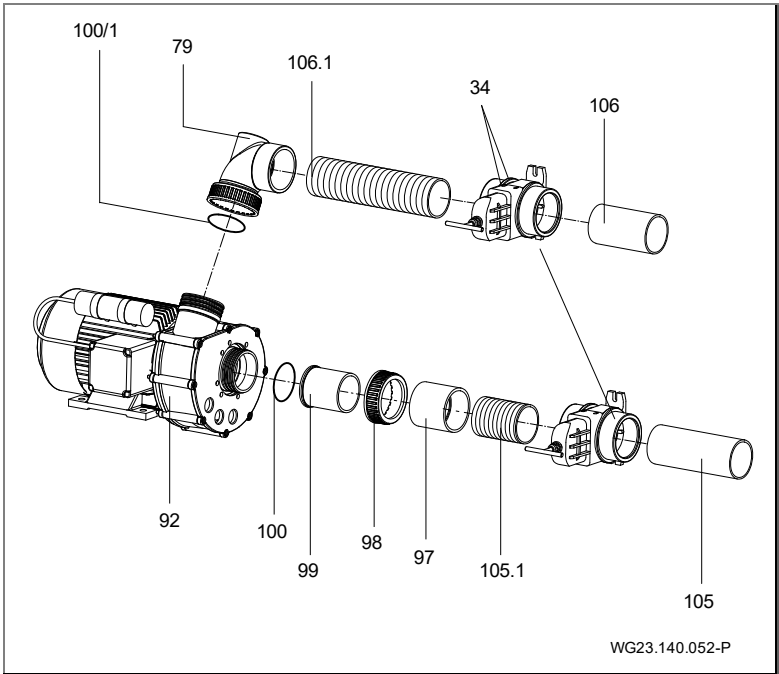

Fig. 22
13. Primavera: Mount the cap for the volume (21/1) and air regulator (111) by means of a rubber mallet and a protective cloth. (Fig. 22)